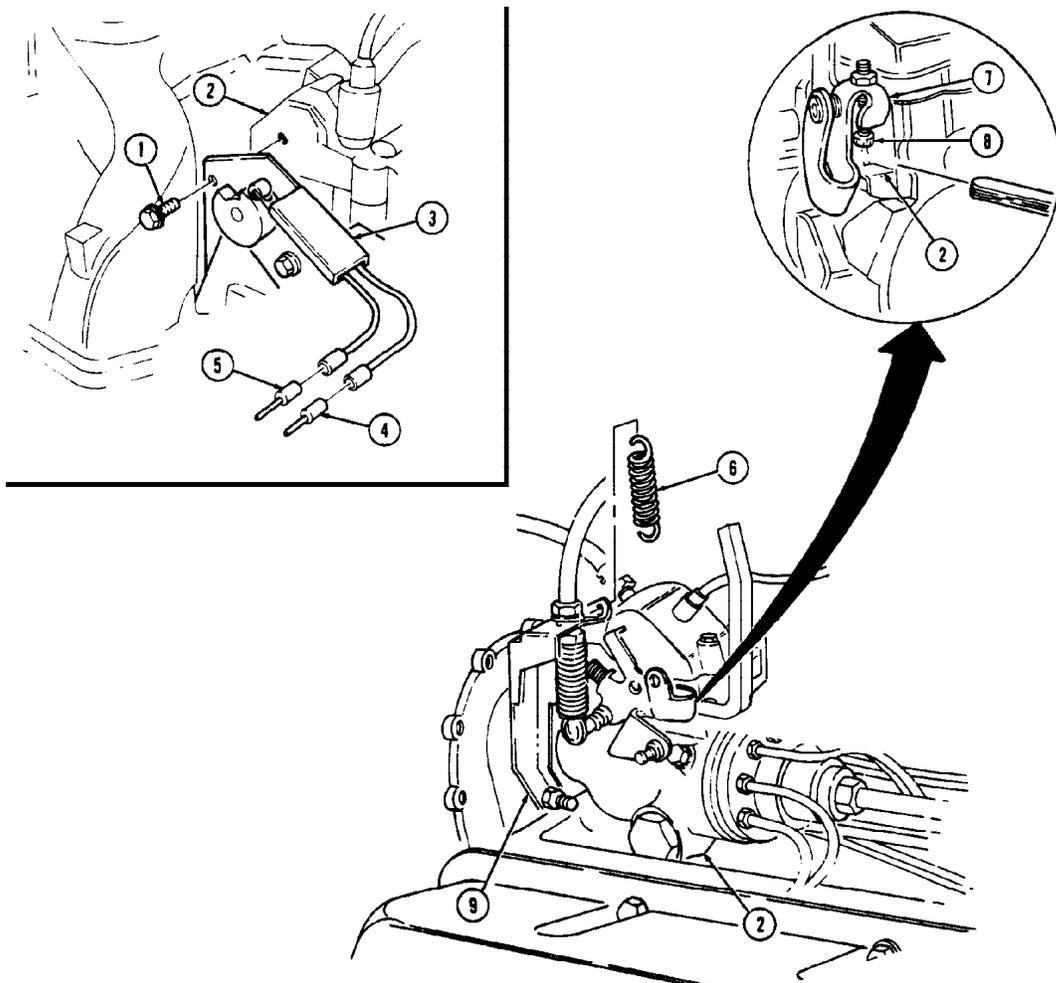

Figure 6-9. Kick-down Switch Adjustment.
**F. TRANSMISSION KICK-DOWN SWITCH TEST & ADJUSTMENT (Figure 6-9)**